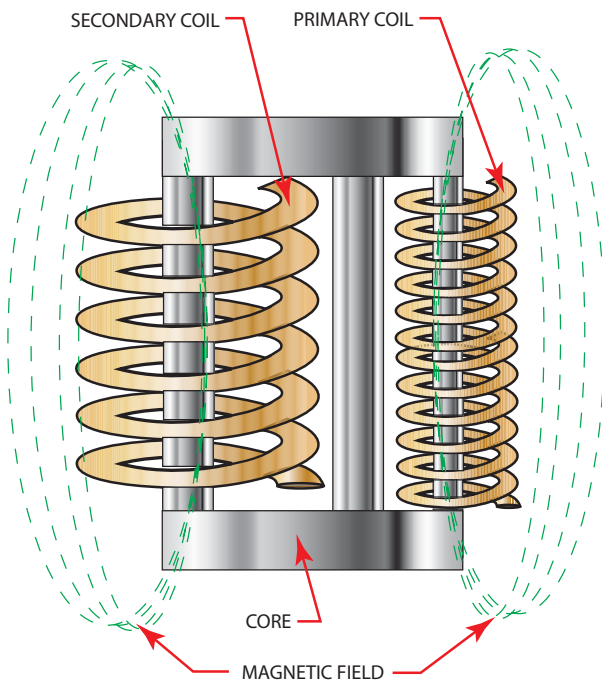

FIGURE 8-16 Parts of a step-down transformer.
- Core—Made of laminated sheets of steel and is used to concentrate the magnetic field produced in the primary winding into the secondary winding, Figure 8-16.